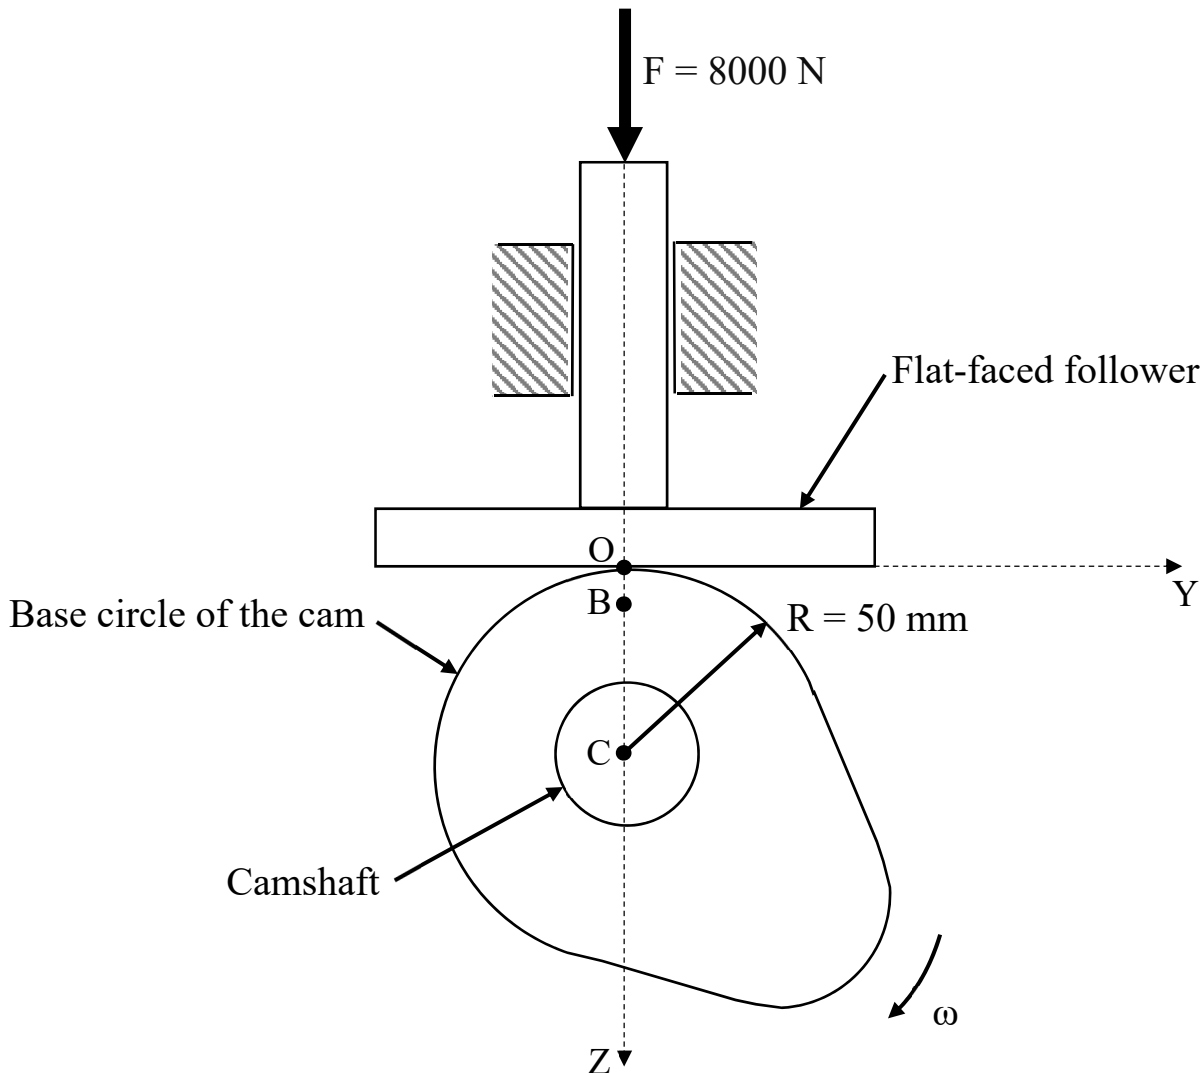

Figure 2. A cam and flat-faced follower. (Not drawn to scale).
**Problem 2 (25 points).** Figure 2 shows the cam and flat-faced follower of a valve train used in a single cylinder engine. In the position shown, the base circle of the carbon steel cam is assumed to be rolling, with minimum slipping, on the face of the titanium alloy follower. The vertically downward load acting on the follower stem is  $F = 8000 \text{ N}$ . The radius of the base circle of the cam is  $R = 50 \text{ mm}$  and the thickness of both the cam and the follower into the paper (that is, the X-axis) is a constant  $40 \text{ mm}$ . If the effects of friction can be neglected then determine: